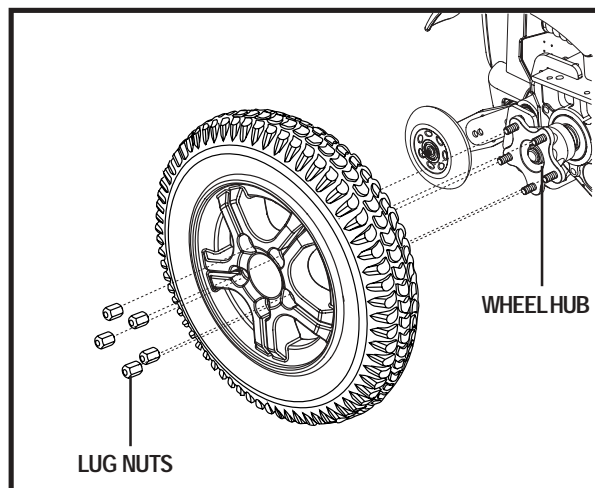

Figure 15. The R-4000 Drive Wheel
4. Remove the five (5) lug nuts from the wheel hub. See figure 15.